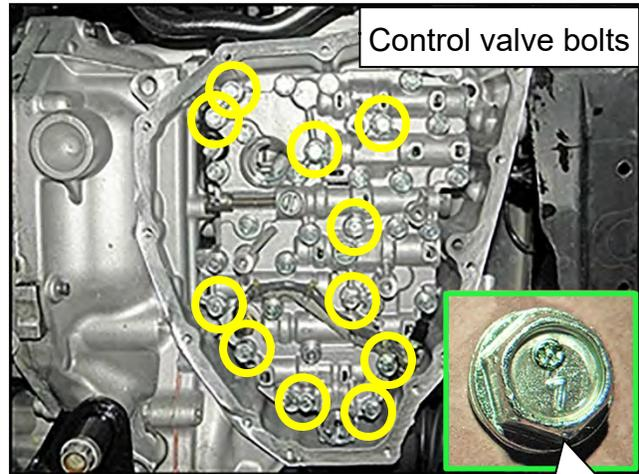

Figure 9
12. Remove ONLY the eleven (11) control valve bolts circled in yellow with markings as shown in Figure 9.